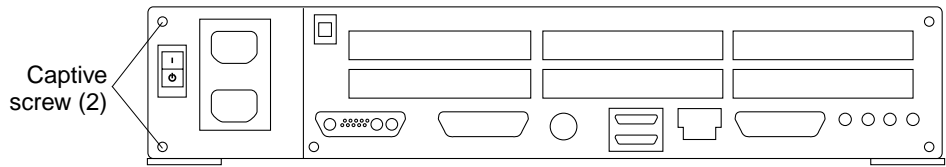

FIGURE 8-3 Power Supply Captive Screws
4. Tighten the captive screw(s) that secure the power supply to the chassis (FIGURE 8-3).